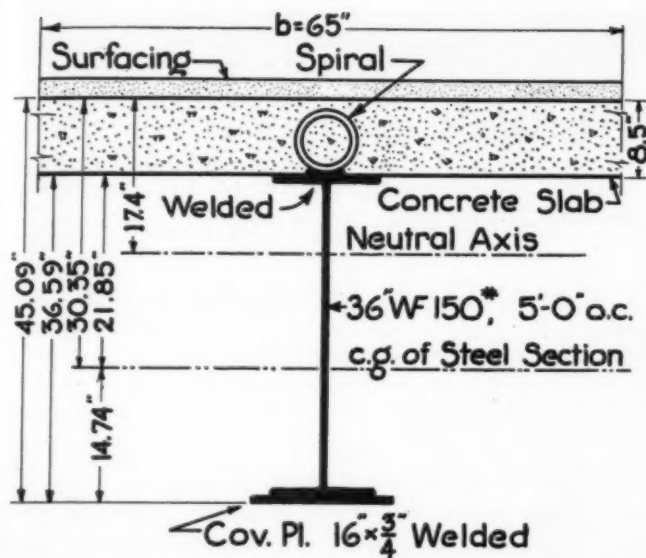

Fig. 3.—Section of Stringer Employing Composite Construction, the Patented Alpha System.
**Design Data.**—The formulae used for the design are the same as generally used in reinforced concrete design, based on the theory of flexure and the assumption that a plane cross-section before loading remains a plane cross-section after loading and that the unit stress is proportional to the deformation. As can be seen from figure 3 the resisting moment of a composite section is the sum of three resisting moments: the resisting moment of the steel in tension, the resisting moment of the steel in compression, and the resisting moment of the concrete in compression. The location of the neutral axis is computed the same way as in any heterogeneous and unsymmetrical beam. The moment of inertia of the composite section consists of the moment of inertia of the tension steel multiplied by  $n$ , plus the moment of inertia of the compression steel multiplied by  $n$ , plus the moment of inertia of the concrete.  $n$  equals the ratio of modulus of elasticity of the steel to that of the concrete.
Designed with the assumption that the steel section alone carries the dead load and the composite section the live load only, a 36 WF 150 plus a plate 16 in. by  $\frac{3}{4}$  in. is required for the Alpha design (see figure 3).